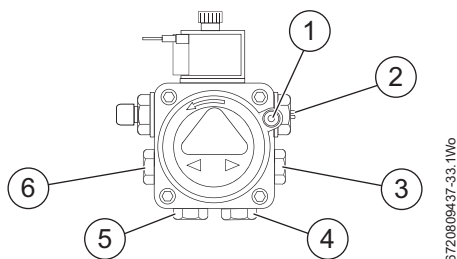

Fig. 69 Oil pump ports/connections
- ▶ Adjust the air shutter [3] → figure 70 and pump pressure [2] → figure 69 to the values shown in the table 10 on page 44.